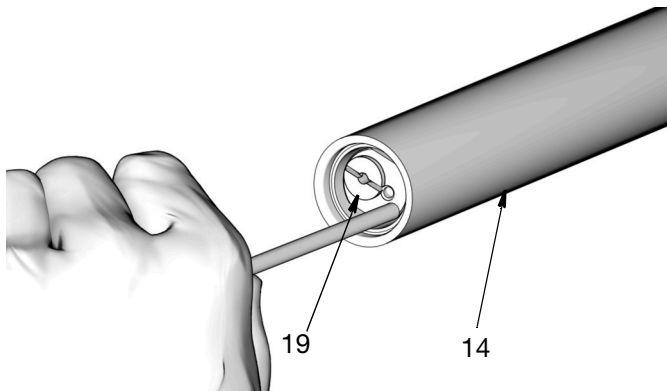

FIG. 27
28. Use a smooth, long brass or aluminum rod, free of sharp edges and burrs, to push the check valve assembly (19) out of the outlet tube (14) (FIG. 27).